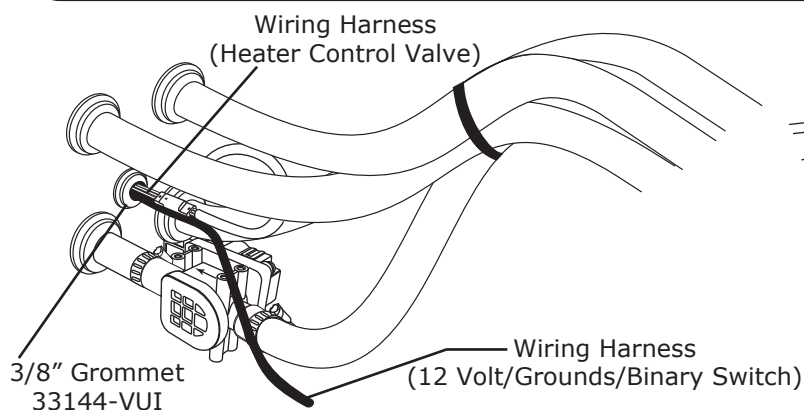

Figure 16
2. Route A/C wires (12 volt/grounds/binary switch/heater valve) through 3/8" grommet (See Figure 16, below).